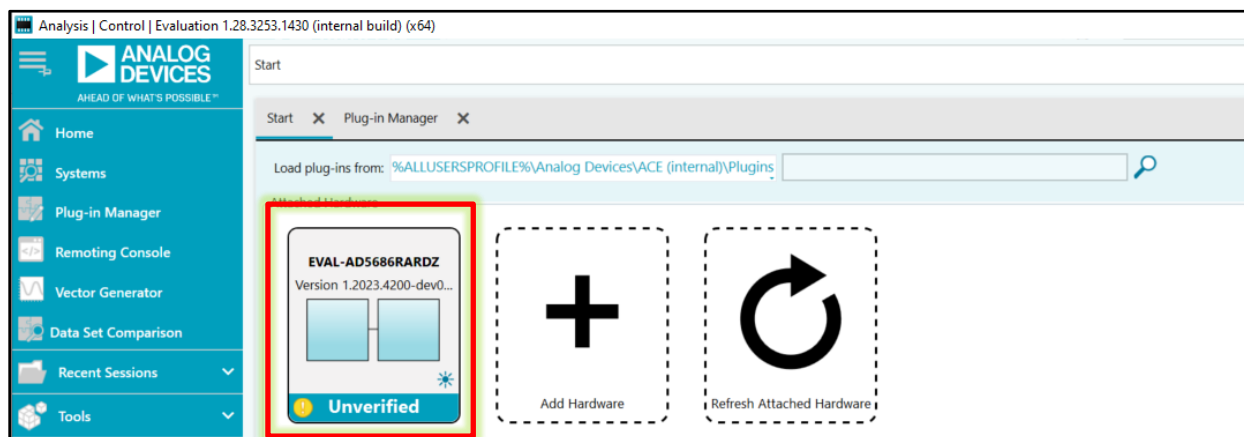

Figure 16
2. Open ACE, EVAL-AD5696RARDZ will show up as an Attached Hardware, shown in Figure 16. Double-click on the EVAL-AD5696RARDZ image.